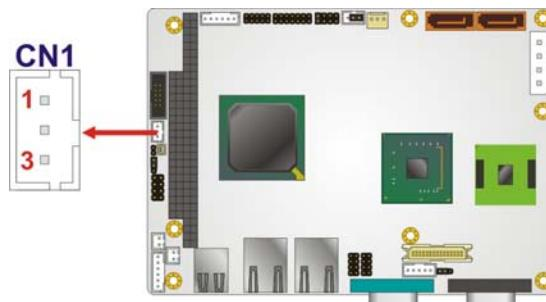

Figure 3-15: PC/104 Power Input Connector Pinouts
**CN Location:** See Figure 3-15